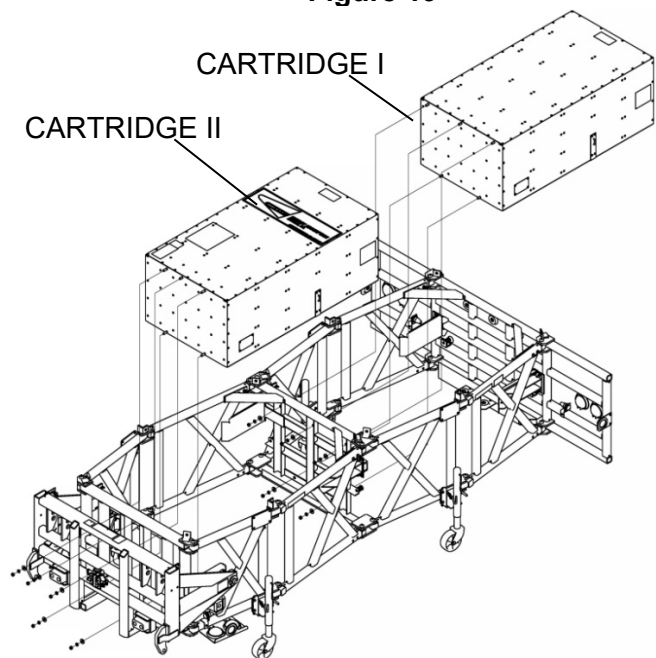

Figure 20
Step 11 - Attach Cartridges (Figure 20)
For impact performance per NCHRP Report 350 crash testing, the TMA must be equipped with one Cartridge I (PN 606002B) and one Cartridge II (PN 606008B), in their proper positions as shown in Figure 20 (p. 19).